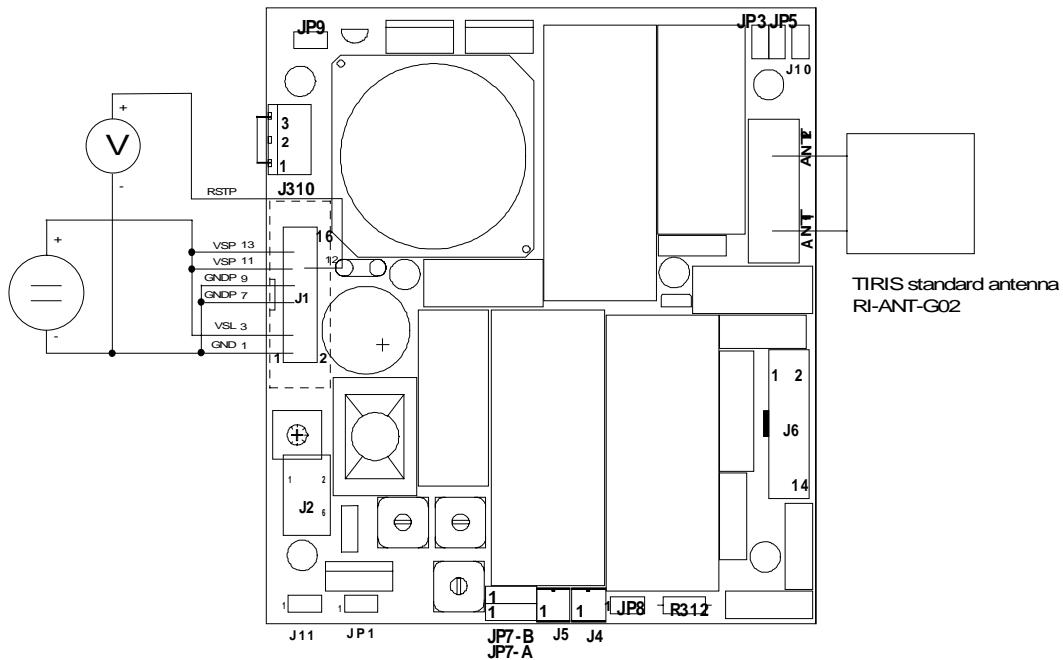

Figure 28: Noise Testing Configuration (Testing RSTP)
The measurement criteria for low noise is the amplitude of the receive signal strength detector of the RF Module. The test pin RSTP at connector ST1 carries an analog output voltage indicating the receive signal strength. This voltage should be measured in combination with the antenna RI-ANT-G02. The set-up for this can be seen in figure 28. This configuration operates the RF Module from a battery and has no interface line connected. As the transmitter is switched off for this configuration, a normal battery can be used for this test.
- * Try the configuration shown in figure 28. If this configuration shows bad noise conditions (RSTP voltage more than about 1.0 Vdc), then the problem is radiated noise.
- * When the configuration of figure 28 shows good noise conditions (RSTP voltage less than 1.0 Vdc), then the problem is conducted noise.